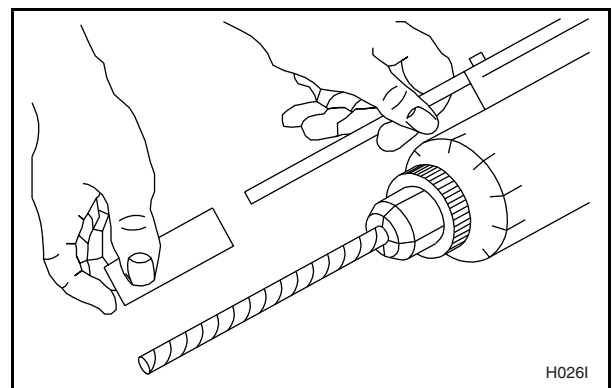

Figure 16
4. Set the drill depth gauge to 2-9/16 inches (65 mm). See Figure 16.